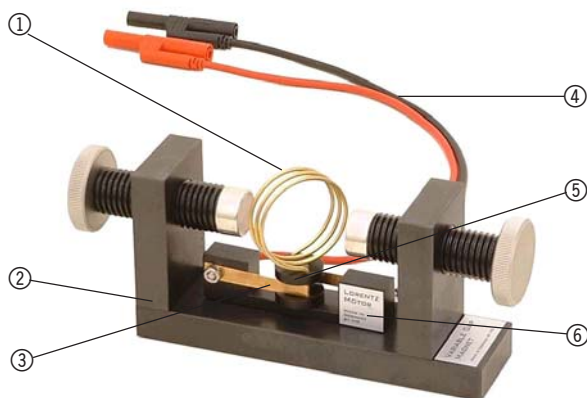

Fig.1: Components
The permanently attached connection leads ④ are equipped with commercially available lab safety plugs with 4 mm diameter. In one of the leads there is also a series resistor with approx. 0.16 Ω (not visible in Fig. 1) designed to limit the maximum motor current to such